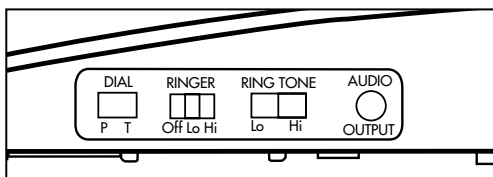

Figure 12 - Ringer Volume & Pitch
1. You can adjust the **RINGER VOLUME** as high as 85+ decibels. The settings available are **OFF**, **LO** and **HI** as shown in Figure 12.